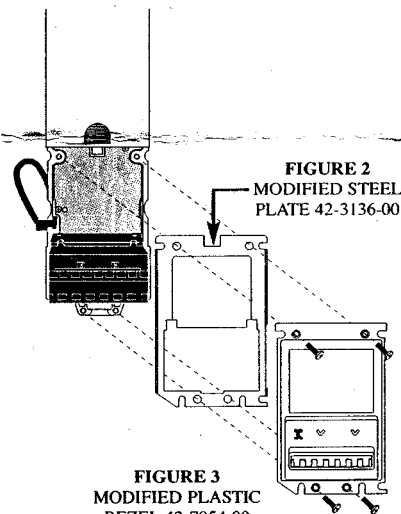

FIGURE 2
- 3.) Install the modified steel mounting plate 42-3136-00 (See Figure 2).